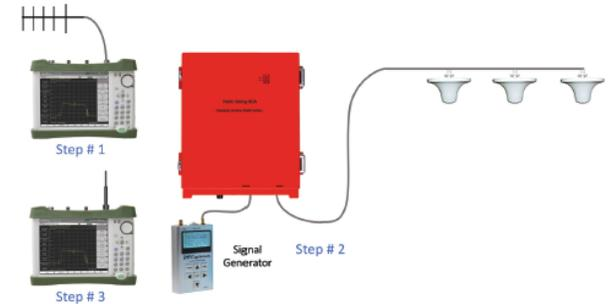

Figure 22.9.3 Exterior Leakage Test
2. Connect a spectrum analyzer, or other measuring device, to the donor coax line that would normally be connected to the donor part of the BDA as shown in Step 1 of Figure 22.9.3. Measure the RF channel power of the incoming signal from the donor antenna.